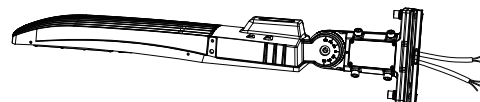

Figure 6
- Step 2: Install the bracket on the fixture, then cover the side lid and tighten it . (Figure6)